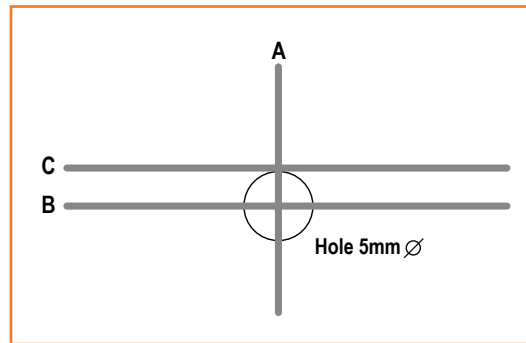

Figure 6.
The first step for assembly was to take all 512 LEDs and bend them correctly. To do this I drilled a 5mm hole in a spare piece of wood and checked that a LED fit snugly and flush to the wood but could also be inserted and removed easily. Once I had my hole correct I drew some guide lines to help with the bending. As pictured in **Figure 6**, the lines I drew were one vertical running through the center of the hole (A), one horizontal line running through the center of the hole (B) and one horizontal line running through the very edge of the hole (C). A metal ruler came in very handy during the bend stage.